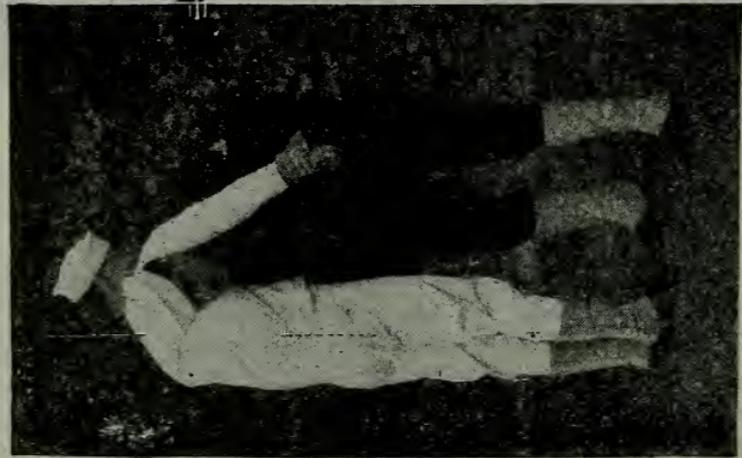

Fig. 28-16—Across-back carry. Completion of first step.
(2) *Across-back carry*.—The method of getting the injured man upon your back in the proper manner is as follows: Lift the wounded man erect, or as nearly so as practicable, as in *In-arms carry*. Seize his right wrist with your left hand and draw his right arm over your head and down upon your left shoulder, leaving your right hand free. (See Fig. 28-16.) Then shift yourself in front of the man, stoop, sustaining part of his weight upon your shoulders and back, thrust your right hand and arm between his legs, clasping his right thigh with your right arm. Shift his right wrist to your right hand. Now grasp his left hand with your left hand. (See Fig. 28-17.) As you stand up, steady his left hand against your side. (See Fig. 28-18.)